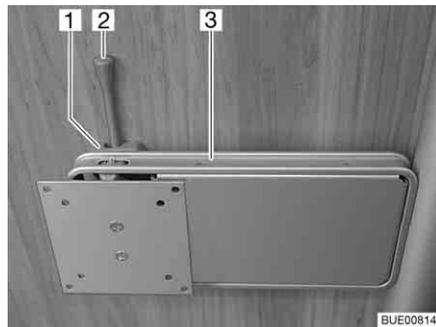
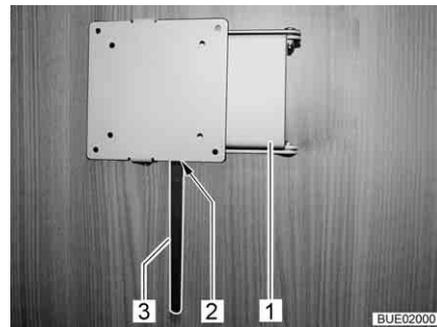

Fig. 52 Holder on the column
Fig. 53 Holder on the column (alternative)
- Push the release lever (Fig. 52,2 or Fig. 53,3) to the side and rotate the holder (Fig. 52,3 or Fig. 53,1) with the flat screen to the desired position.
- Rotate the flat screen back until the holder (Fig. 52,3 or Fig. 53,1) engages in the lock (Fig. 52,1 or Fig. 53,2).